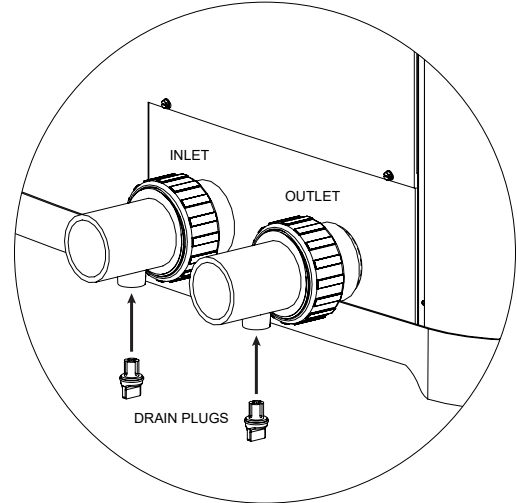

Figure 42. Drain Plug Locations
2. With the pool pump OFF, close the external shut-off valves and remove the drain plugs located in the inlet and outlet water unions to allow water to drain. See Figure 42.